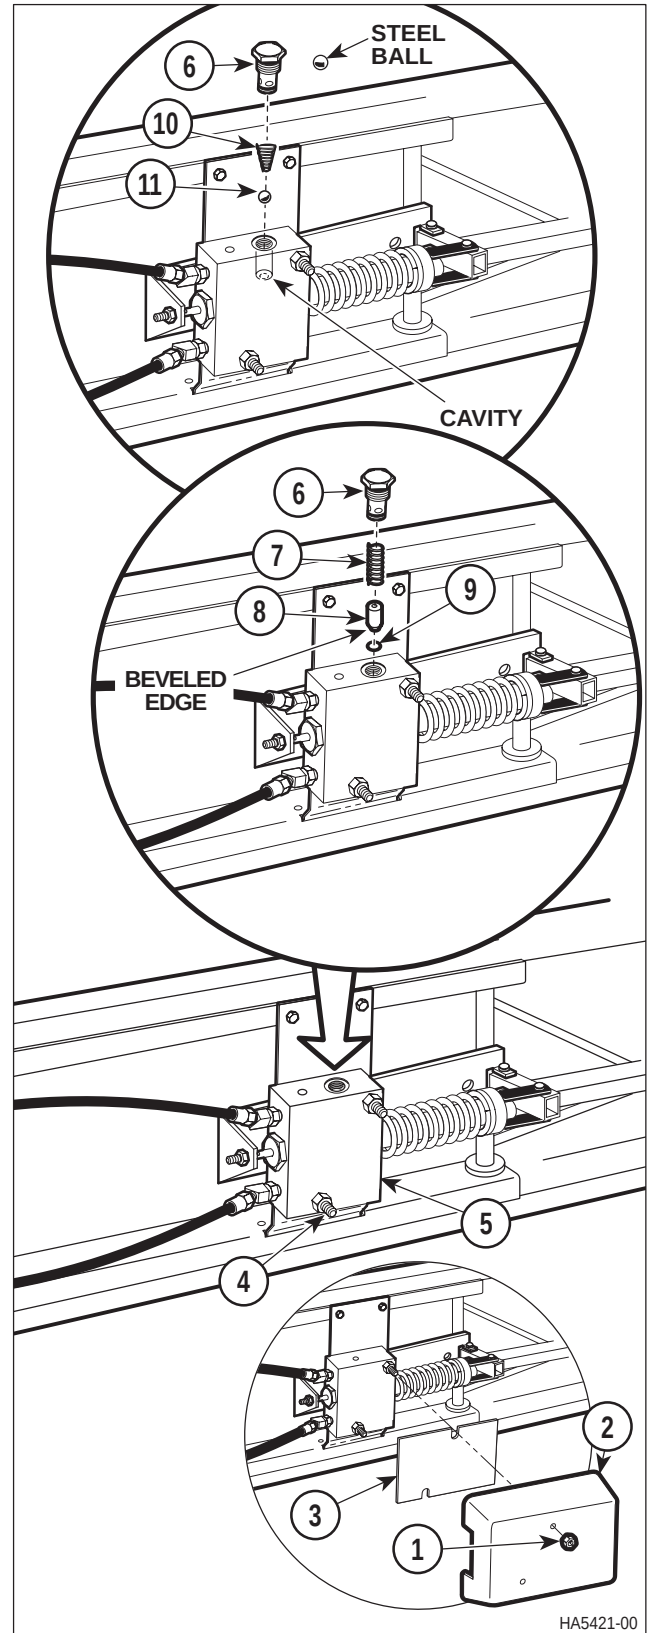

Figure 4-13. Pump Check Valve And Reservoir Check Valve Removal / Installation
- (1) Remove lower cover (Refer to para 4.2).
- (2) Depress the caster control pedal to the "brake" position.
- (3) Lay the stretcher onto its side.
- (4) Remove two nuts (1, Figure 4-13), pump cover (2), and pad (3) from two bolts (4).
- (5) Place a drain pan under pump assembly (5).